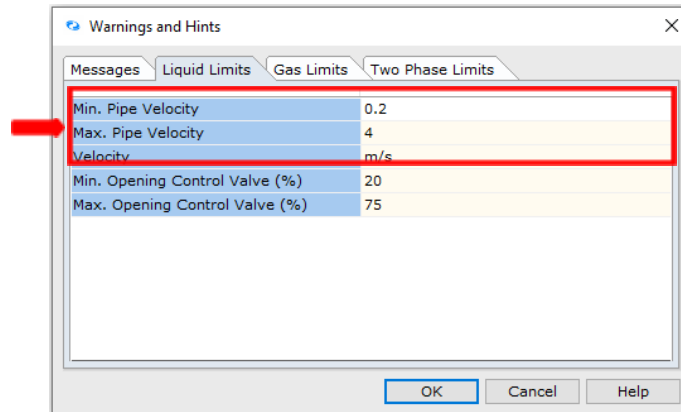

Figure 31: Warning and Hints: Liquid Limits.
Since we are modeling a liquid system, we are only interested in the Liquid Limits (Figure 31).
34. As we can see in Figure 30, the actual flowing velocity of the fluid is **2.37 m/s** which is within the **0.2 – 4 m/s** range for the minimum and maximum pipe velocity (Figure 31). The high-velocity warning is enunciated once the actual flowing velocity is higher than the maximum velocity level set in our warnings (**4 m/s** – See Figure 31).